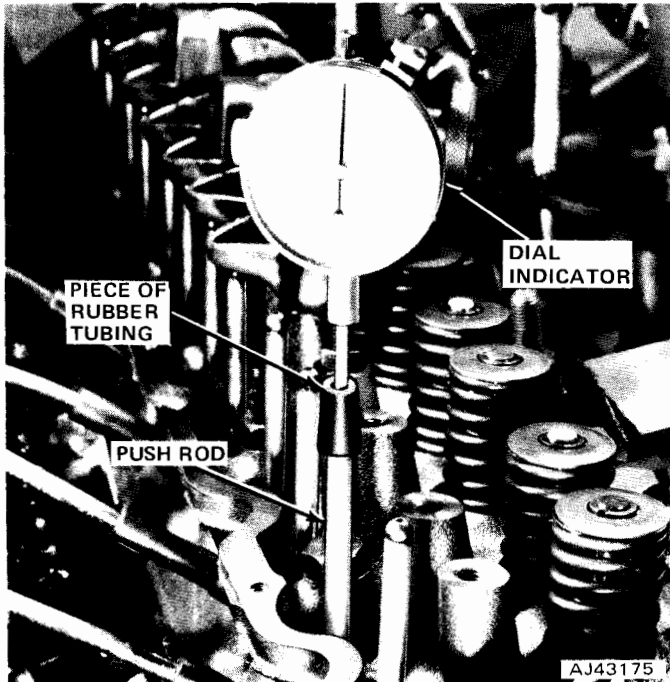

Fig. 1A-30 Cam Lobe Lift Measurement
- (7) Remove cylinder head and gasket.
- (8) Remove hydraulic tappets.
- (9) Remove drive belt(s).
- (10) Remove radiator fan and hub assembly.
- (11) Remove damper pulley (if equipped).
- (12) Remove vibration damper.
- (13) Remove timing case cover.
- (14) Remove timing case cover oil seal.
- (15) Remove fuel pump.
- (16) Remove distributor and ignition wires.
- (17) Rotate crankshaft until 0 timing mark of crankshaft sprocket is closest to and in a centerline with timing pointer of camshaft sprocket (fig. 1A-28).
- (18) Remove crankshaft sprocket, camshaft sprocket and timing chain as an assembly.
- (19) Remove front bumper or grille as required and remove camshaft.
- (1) Lubricate camshaft with Jeep Engine Oil Supplement or equivalent.
- (2) Install camshaft carefully to prevent damaging camshaft bearing.
- (3) Install timing chain, crankshaft sprocket and camshaft sprocket with timing marks aligned (fig. 1A-28).
- (4) Install camshaft sprocket retaining bolt and tighten to 50 foot-pounds.
- (5) Install timing case cover with new oil seal.
- (6) Install vibration damper.
- (7) Install damper pulley (if equipped).
- (8) Install radiator fan and hub assembly.
- (9) Install drive belt(s) and tighten to specified tension (refer to Section 2—Cooling).
- (10) Install fuel pump.
- (11) Rotate crankshaft until No. 1 piston is at TDC position on compression stroke.
- (12) Install distributor cap and ignition wires.